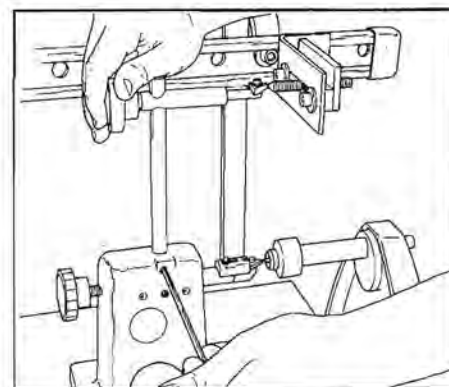

Figure 8. Align the follower with the cutter.
1. Align the follower with the cutter. (See Figure 8.) Position the carbide